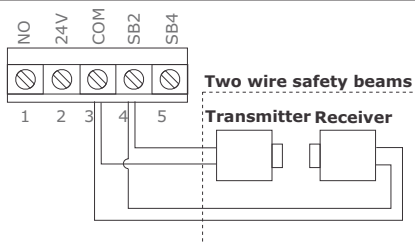

Figure 14A
- a. **XTrac** two wire safety beam (Figure 14A)